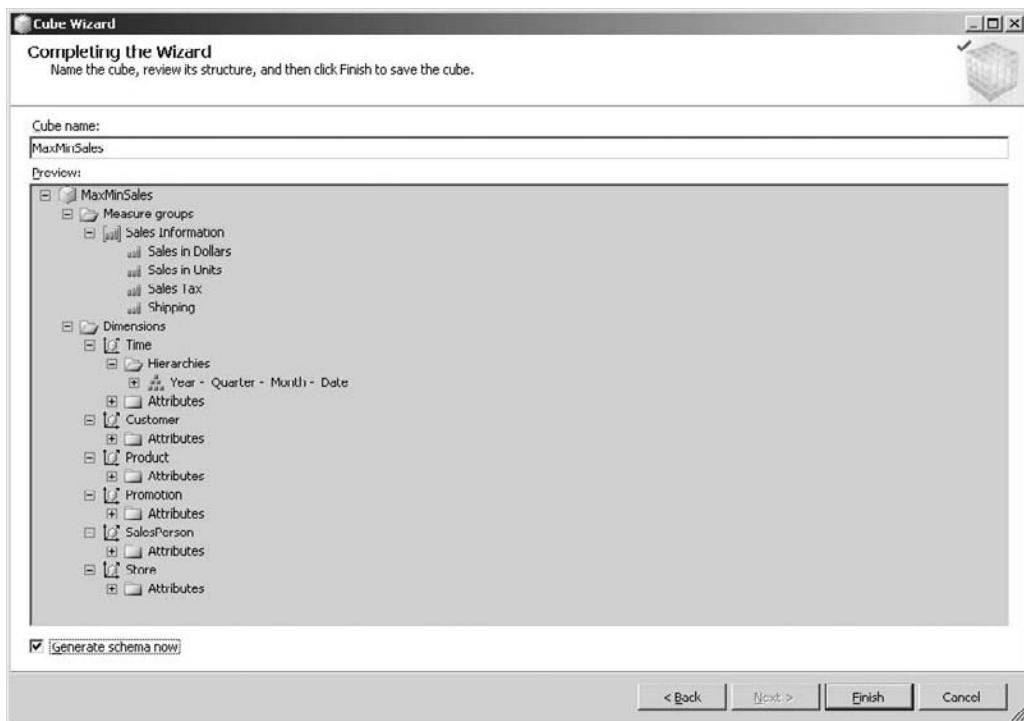

Figure 6-31 Completing the cube in the Cube Wizard
40. The Completing the Wizard page lets us review the cube we defined. Enter **MaxMinSales** for the Cube Name. We can expand the nodes in Preview to view the measures and dimensions that are to be created in this cube. Note, only the Time dimension has a hierarchy. We add additional hierarchies manually. When all the nodes except the Attributes nodes are expanded, the Preview should appear as shown in Figure 6-31.